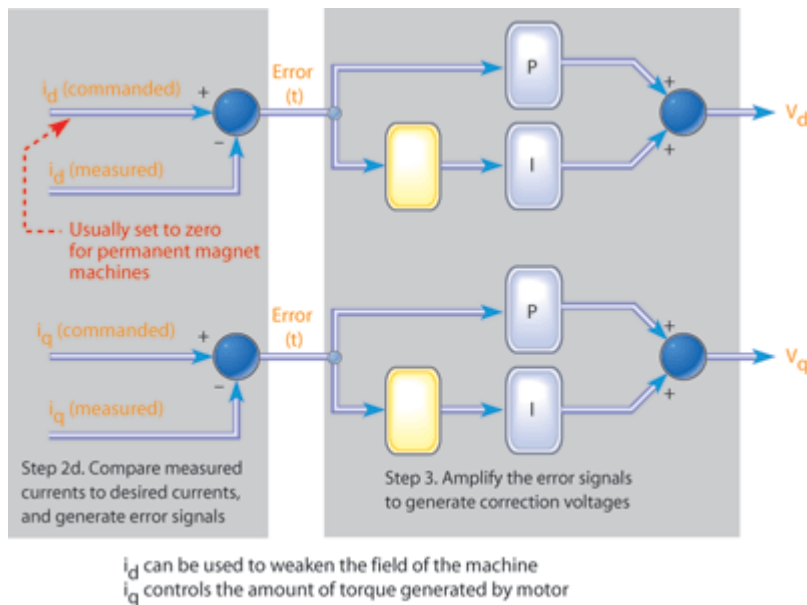

Figure 5: Generate error signals
directly aligned with the rotor flux on the d-axis (i_d), and one that's at 90 electrical degrees to the rotor flux on a quadrature axis called the q -axis (i_q). Here's where it all comes together. The beauty of the transformations I've shown you is that they yield i_d and i_q current components that are DC quantities! All of the sinusoidal artifacts associated with the rotating rotor drop out of the equations altogether. We can now compare each of these DC values with the desired values we want for each axis and generate error signals as shown on the left side of Figure 5. In most cases with BPM motors, we set the commanded value for i_d to zero, since we already have all the flux we need from the rotor's permanent magnets. However, i_q is where all the action is, and this commanded value is responsible for setting the torque in the machine. So when you want more torque assist in an EPS application, i_q is the variable you want to adjust.
STEP 3: Amplify the error signals to generate correction voltages. As discussed in the previous step, we now have two measured DC currents (i_d and i_q) that need to be regulated. This is shown in Figure 5, where a separate regulator is employed for each axis. The PI regulator is a popular choice for current mode control. The regulators for i_d and i_q work independently from each other in the rotating reference frame and can be thought of as rotating synchronously with the rotor flux. The outputs of both of these regulators generate voltages that serve to correct for the differences between the measured and commanded values for each axis.